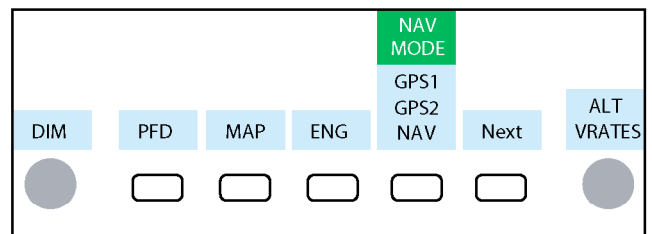

Figure 2.1 Menu — EFIS Input From Navigation Source To View - [any button]
- 1 In Figure 2.1 choose a GPS source. I will choose GPS2 which is my external GPS.
- 1 In Figure 2.1 choose a NAV as your source. NAV on my EFIS represents the SL-30 Nav/Com radio.
- [NAV] follow the navigation instrument chosen in Figure 2.1 under [NAV MODE].
- 1 In Figure 2.1 choose a GPS source.
- 2 Highlight [NAV] in Figure 2.1